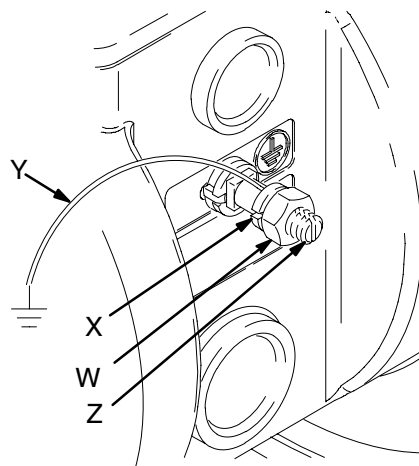

Fig. 1
- *Pump:* Connect a ground wire and clamp as shown in Fig. 1. Loosen the grounding lug locknut (W) and washer (X). Insert one end of a 12 ga (1.5 mm2) minimum ground wire (Y) into the slot in the lug (Z), and tighten the locknut securely. Connect the clamp end of the ground wire to a true earth ground. *To order a ground wire and clamp, order Part No. 222011.*